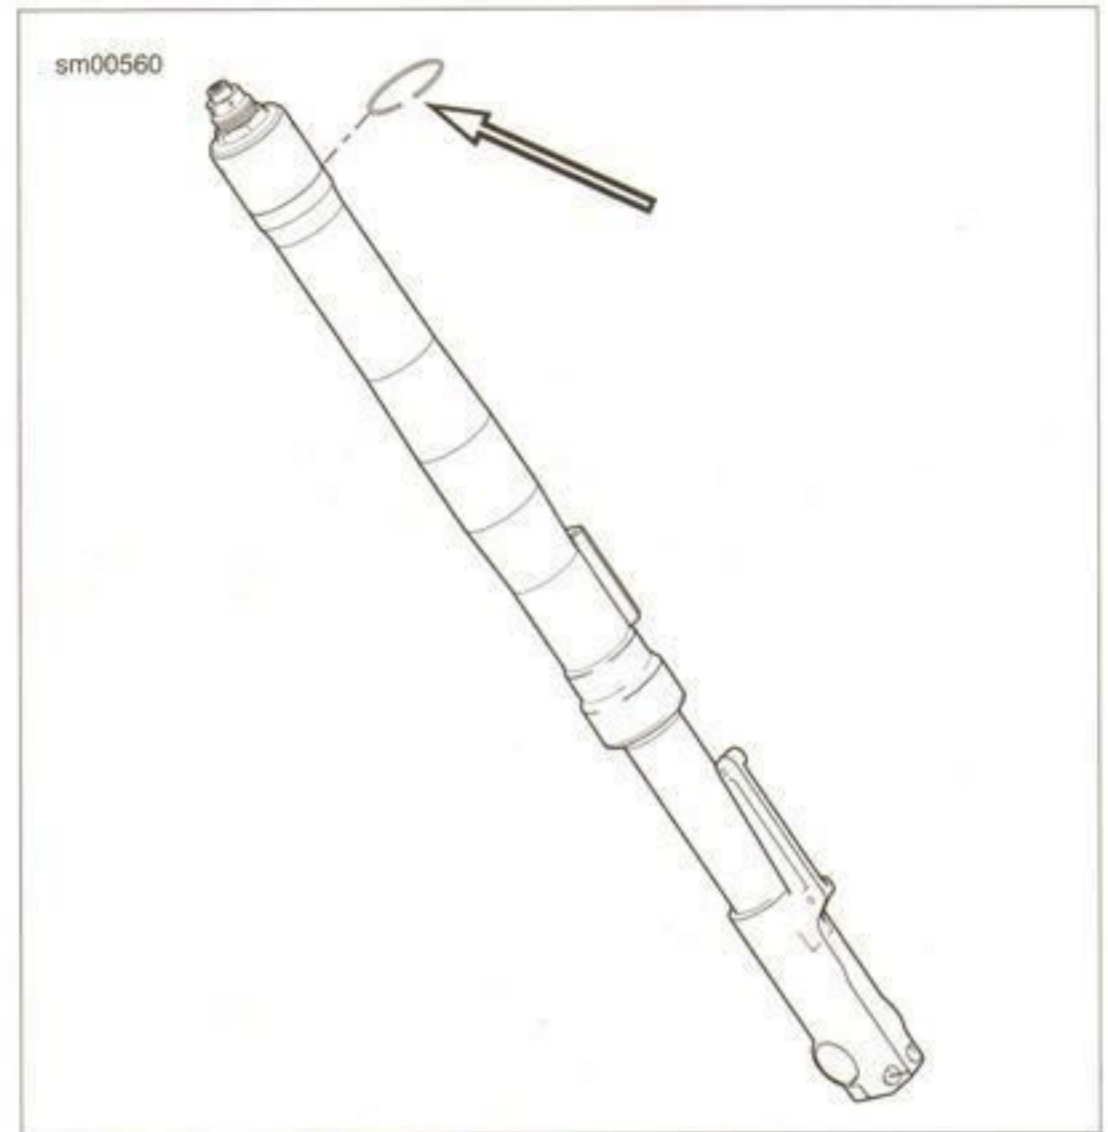

Figure 2-81. Stopper Ring
5. See Figure 2-81. Remove fork from upper fork clamp and slide the stopper ring up and over the top of the fork.